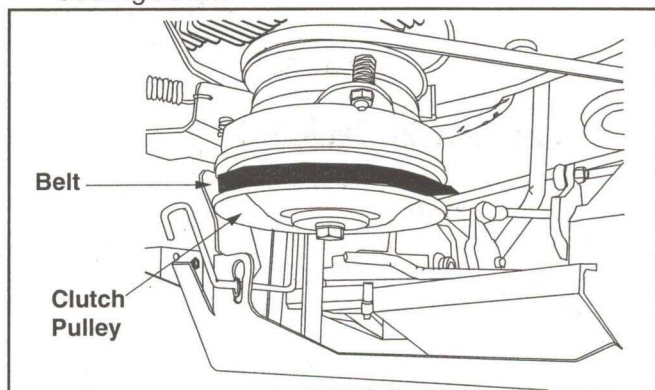

Figure 24
- Locate the clutch pulley in the rear of the tractor below the muffler to remove the belt from the pulley. See Figure 24.